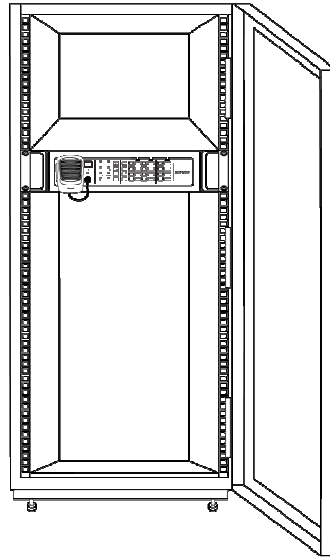

Figure 6 Schematic Diagram of Installing the DCS in the Cabinet
2. Put the DCS appliance into the cabinet, and tighten the screws to secure the unit, as shown in Figure 6.